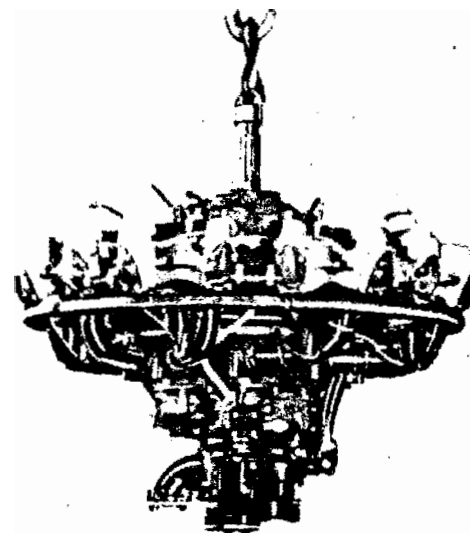

Figure 4-27. Shipping Base and Cone in Position
c. Place the engine case base with the support cone attached and the mounting plate in position, under the engine [Figure 4-27]. Carefully spread the protective